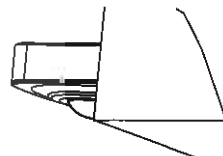
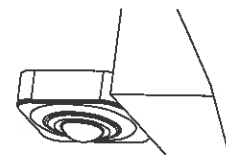

Fig2A
Fig2B
NOTE : The Sensor's field-of-view may be partially obstructed by the Luminaries housing (refer to Fig2A).At higher mounting heights, the outer beams are not used. As long as the bottom of the sensor is mounted within 1" from the bottom of the luminaire, the field-of-view will not affected (refer to Fig2B)
1.Position one half of the Adapter body on the end of the luminaire to determine the appropriate mounting hole to be used on the Adapter that will position the sensor for optimum coverage. The bottom of the sensor should be at or below the luminaire body.(refer to Fig 2B)